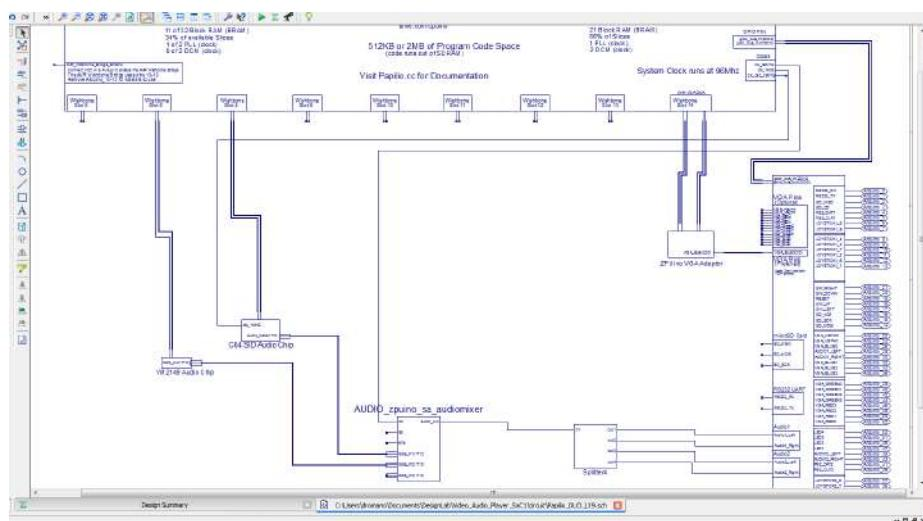

Figure 6-21 Add audiomixer and splitter
4. Add `AUDIO_zpuno_sa_audiomixer` and `Splitter4` symbols and connect them to the output of the YM2149 and C64 SID. Also connect the ck (clock) of the audiomixer to the `ck_96MHz` clock of the ZPUino, as shown in Figure 6-21.